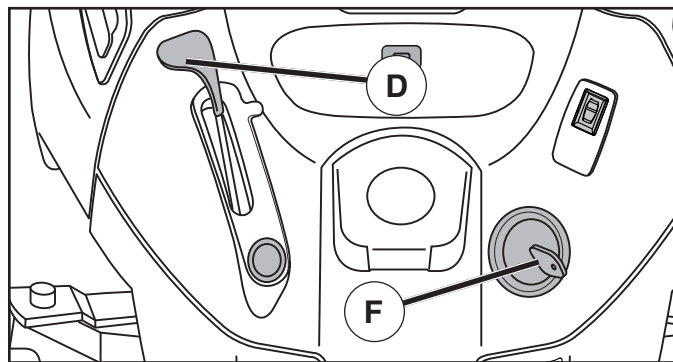

Fig. 19
TO USE THROTTLE CONTROL (D) (See Fig. 19)